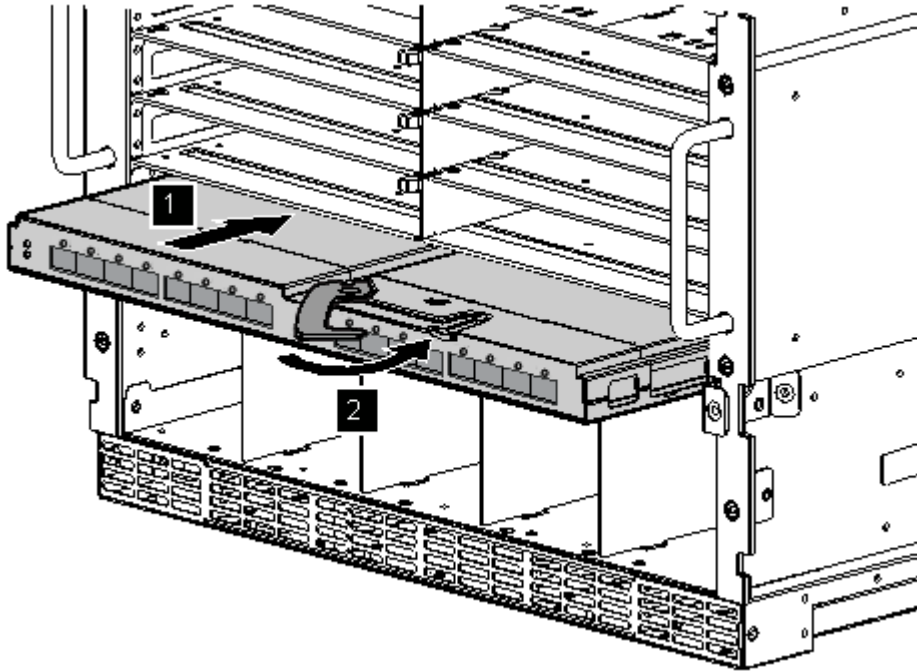

Figure 6 Installing an HP BLc QLogic 4X QDR InfiniBand Managed Switch into an HP BladeSystem Enclosure
1. Slide the HP BLc QLogic 4X QDR InfiniBand Managed Switch all the way into the HP BladeSystem enclosure (see callout 1 in Figure 6).
2. Push the blade handle in until it is in the locked position (see callout 2 in Figure 6). The blade handle is locked when you cannot pull it back out without pushing the blade handle release.